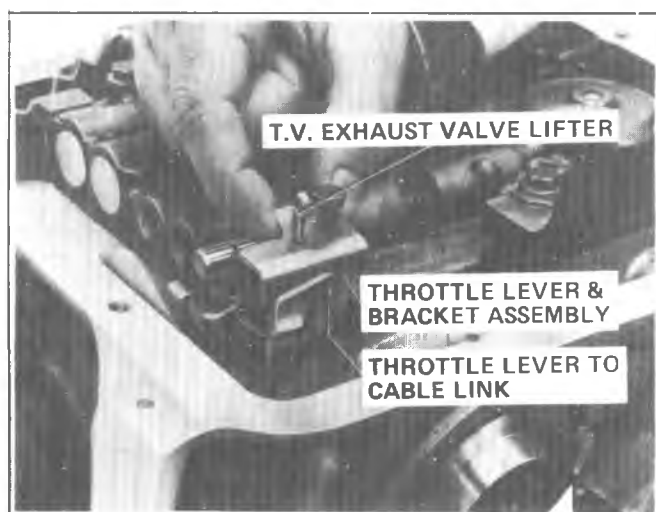

Fig. 7A-165A--Installing Throttle Valve and Bracket Assembly
c. Install link on throttle lever making sure link is hooked as shown (Fig. 7A-165A).